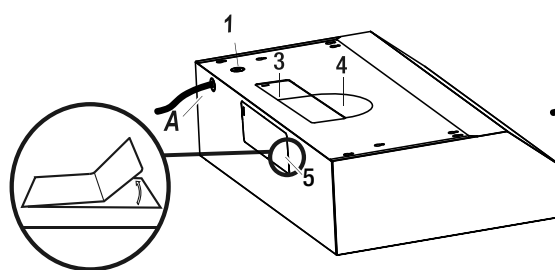

Fig. 10
- Use the power supply cable to connect the range hood (A) directly to the junction box or circuit breaker box. Use a flexible, armoured, or nonmetallic sheathed copper cable only. Never use an extension cord or adapter plug.
- Connect a UL-listed or CSA-approved conduit connector to each end of the power supply cable (at the range hood and at the junction box). Connect the 2 colored wires from the range hood (A) to the corresponding wires from the electrical source: black to black (live), white to white (neutral), and the house grounding wire to the green ground screw. Use either the top hole (1) or the back hole (2) of the range hood depending on your installation type as shown in Fig. 10.
- Choose the venting hole to remove for your installation type. Use the top holes (3 & 4) for a top venting installation and the back hole (5) for a back venting installation. See Installing the damper section for more details.
- Carefully remove the cover (3, 4 or 5) of the appropriate venting hole using a flat head screwdriver or needle nose pliers (refer Fig. 10). Be careful not to damage any internal components when removing the knockouts and not to leave any debris inside the range hood (A).